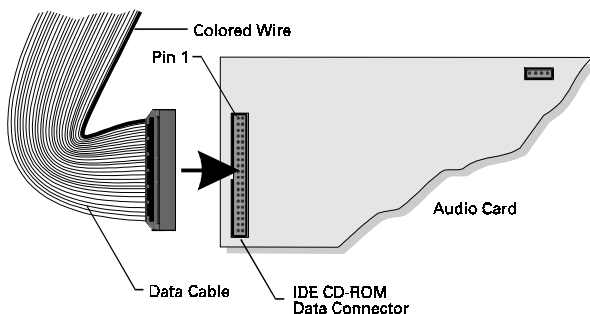

Figure 2-10: Connecting data cable to the audio card.
1. Connect the data cable to your audio card as shown in Figure 2-10. Make sure you align the colored wire on the cable to Pin 1 of the IDE CD-ROM Data Connector.